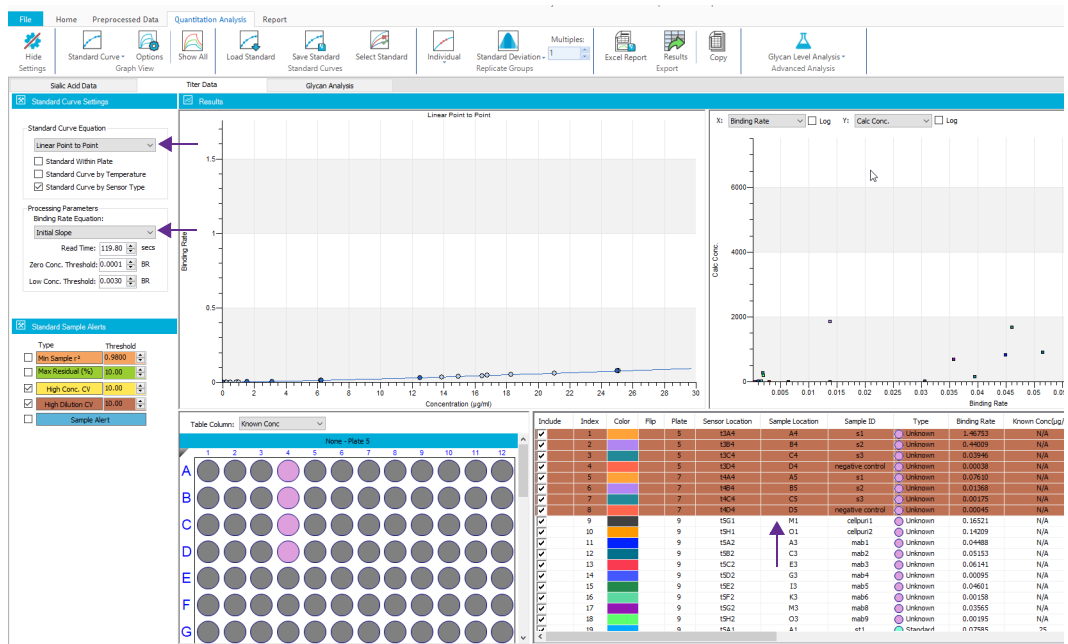

Figure 3-3: Selecting the Binding Rate Equation, Source for Standard Curve and Titer Concentration Data
A separate standard curve can also be loaded by clicking  **(Load Standard)** (Figure 3-3).
5. Pick the titer concentration data with desired dilution factors by checking or unchecking the **Include** box next to the rows in the table (Figure 3-3).